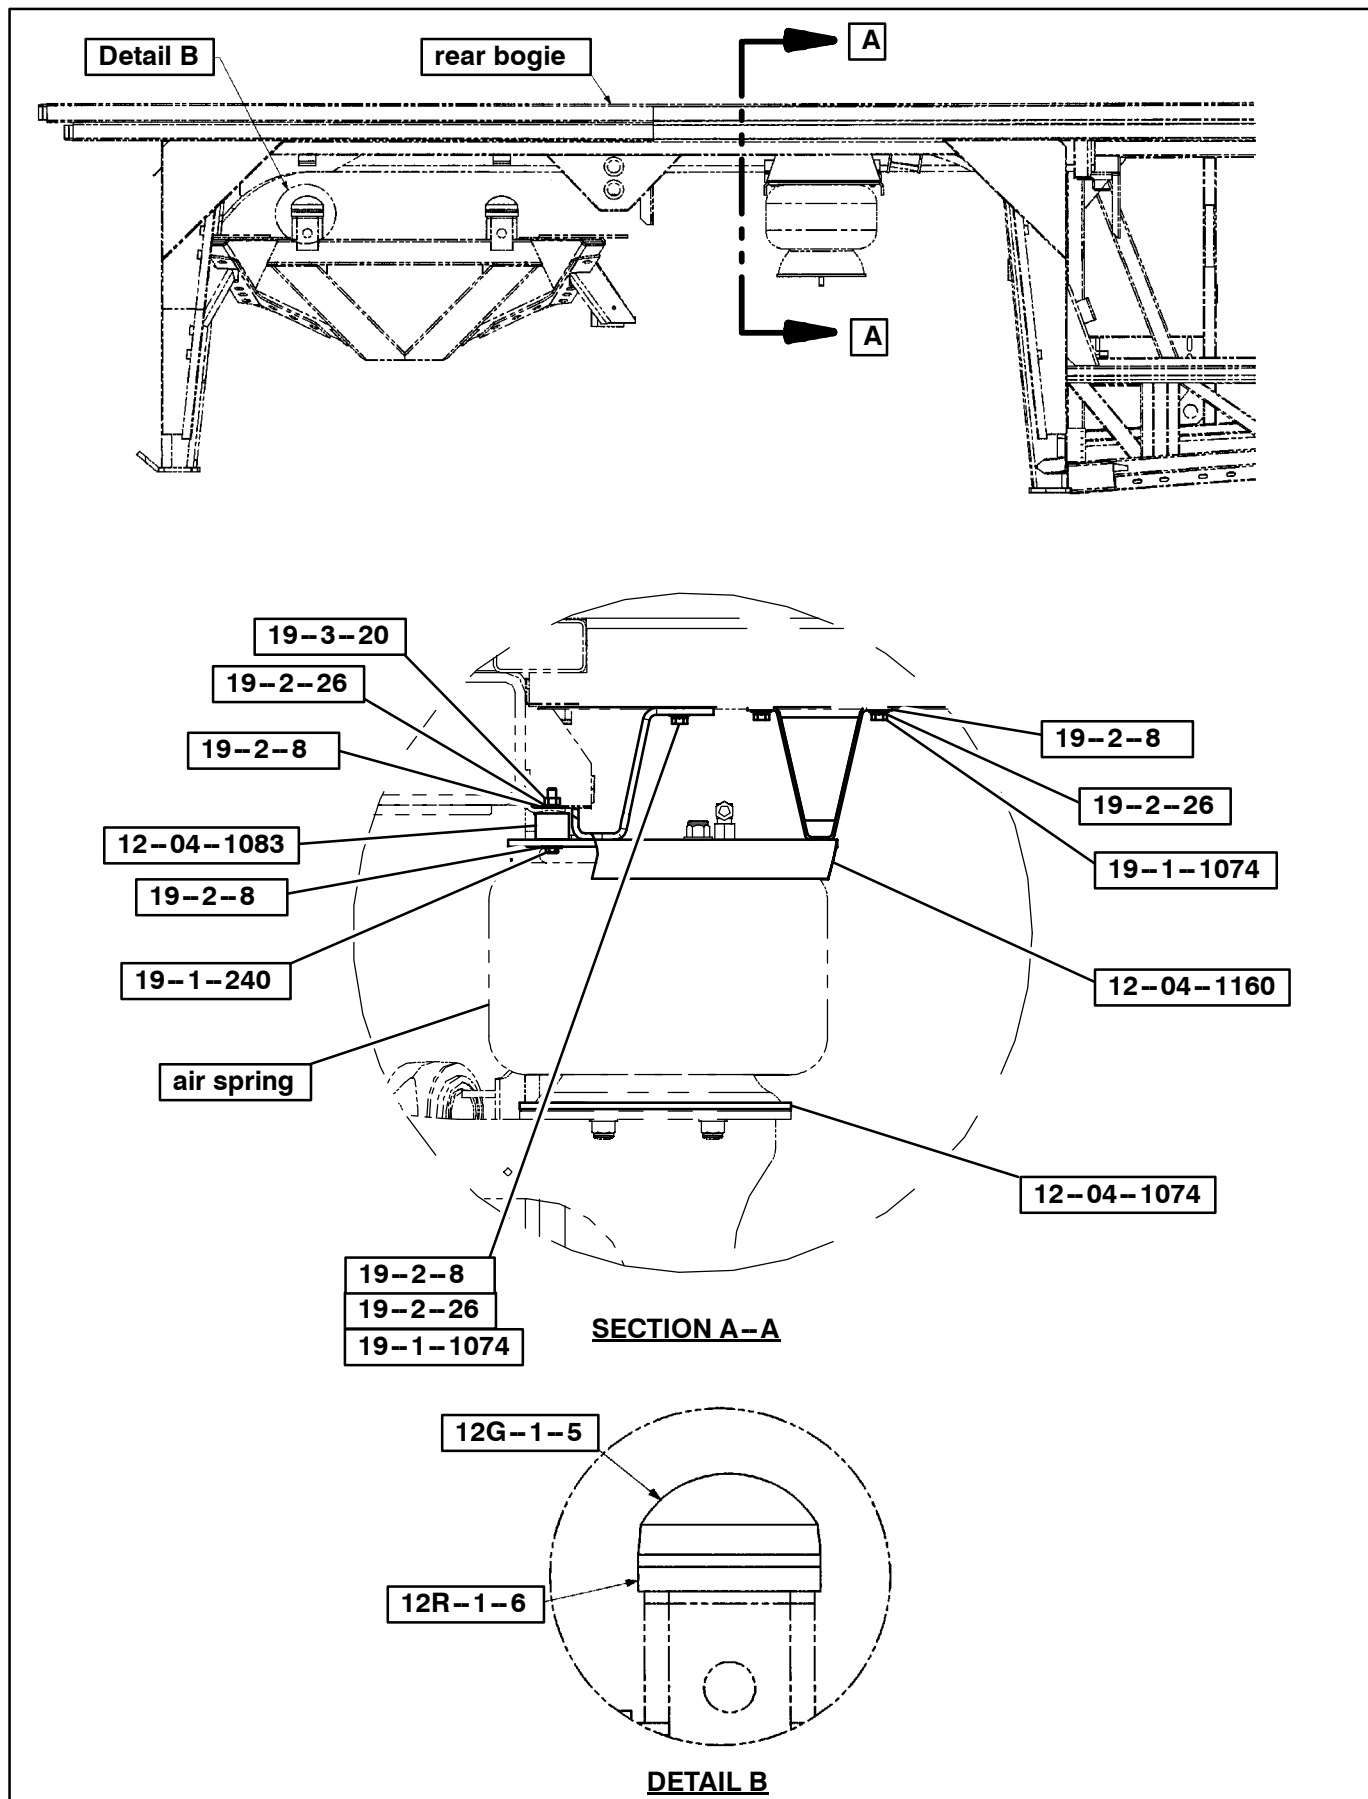

Figure 5.
14. Install the new rubber bumper (p/n 12G-1-5) and bumper block spacer (p/n 12R-1-6) (Detail B / Figure 5).
16. Install the new plate assembly (p/n 12-04-1160) and spacer (p/n 12-04-1083) in the locations shown in Figure 5., using the new plate assembly mounting hardware provided in the Parts list. Torque nut (p/n 19-3-314) to 18–22 ft.-lbs.
17. Align and position the spacer (p/n 12-04-1074) in the location shown in Figure 5.